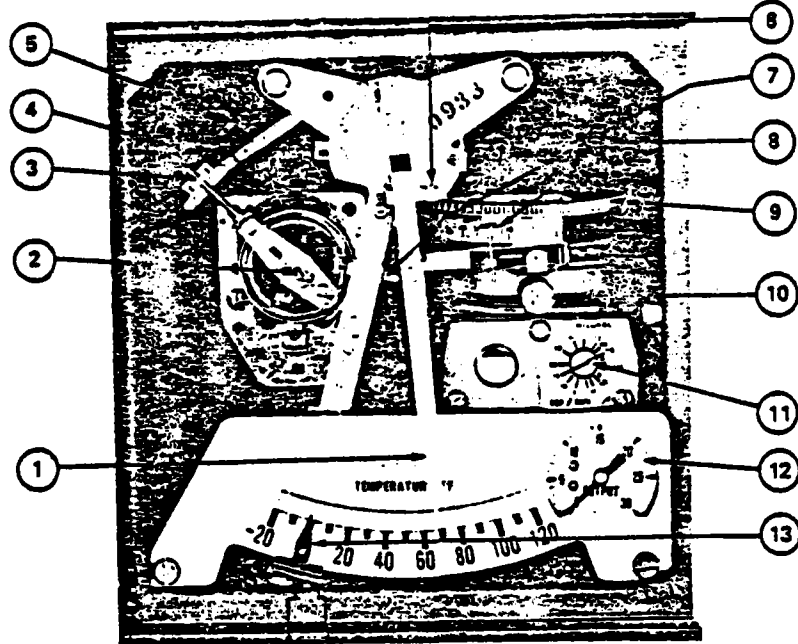
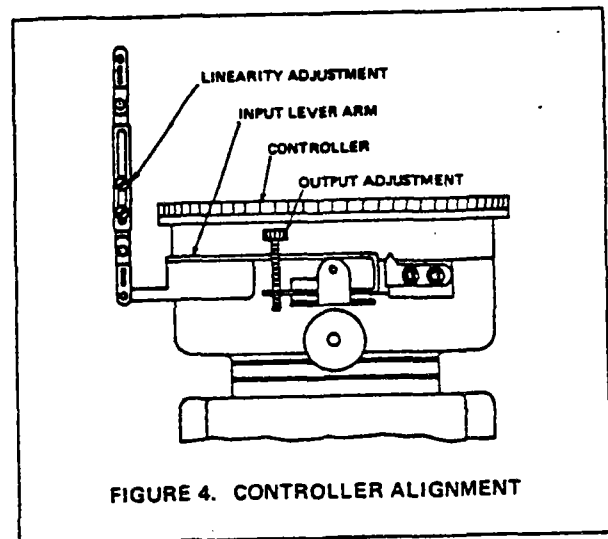

FIGURE 3. INTERIOR VIEW OF CONTROLLER
FIGURE 4. CONTROLLER ALIGNMENT
C. CONTROLLER ALIGNMENT CHECK (See Fig. 4)
Connect a 20 (30) psi air supply to instrument supply connection. Disconnect linearity adjustment (item 5, fig. 3) from span adjustment (item 3, fig. 3) using disconnect (item 4, fig. 3). Move indicating pointer (item 1, fig. 3) to mid-scale and hold with paper clip, tape, etc. NOTE: If output is not connected to process, then output must be plugged off with length of tubing or oscillation may occur.
1. On Gain Controllers. Set gain at 2. Move index to coincide with the indicating pointer. Output pressure should be 9 psi. If it is not 9 psi, turn screw (item 8, fig. 3) so that the output is 9 psi. Coarse adjustment of linearity adjustment (fig. 4) may be required.
shutting off completely. If the output pressure is not 9 psi after the above procedure, turn screw (item 8, fig.3) so that the output pressure is 9 psi. Coarse adjustment of linearity adjustment (fig. 4) may be necessary.
Move the setpoint index to coincide with indicating pointer. Output pressure should be 9 psi. If the output drifts, then the derivative is not shutting off completely. If the output pressure is not 9 psi after the above procedure, turn screw (item 8, fig. 3) so that the output pressure is 9 psi.
2. On temperature models, if the indicating pointer is in the way, disconnect the measuring element link at point 4, fig. 3.